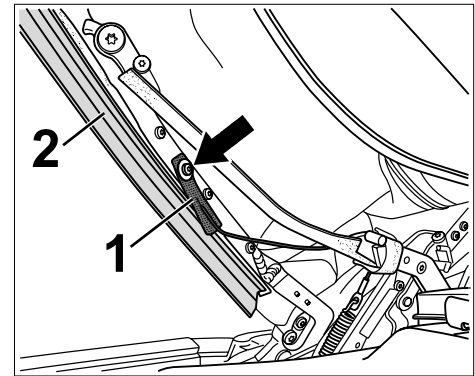

Figure 6
- 2.6 Screw the end piece of the tension rope $\Rightarrow$ *Figure 6 -Pos. 1-* onto the tension bow for the convertible top $\Rightarrow$ *Figure 6 -Pos. 2-* again $\Rightarrow$ *Figure 6 -Arrow-*. **Tightening torque 4 Nm (3ftlb.)**
Check that the end piece of the tension rope $\Rightarrow$ *Figure 6 -Pos. 1-* is parallel to the tension bow or is at a slight downward angle as shown in $\Rightarrow$ *Figure 6*.